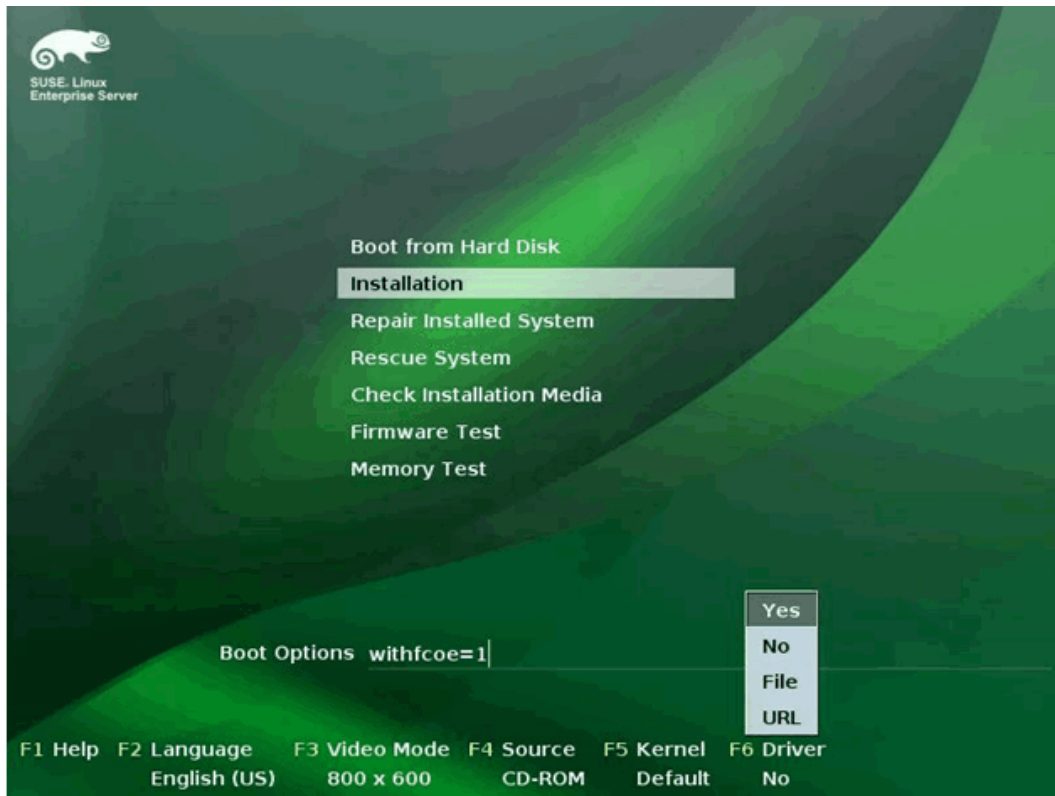

Figure 14-11. Starting SLES Installation
- e. Click **Installation** to proceed (Figure 14-11).